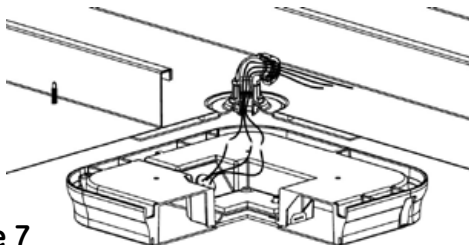

Figure 7
- Route service leads through conduit & hub to the fixture junction box as in figures 7 and 8.